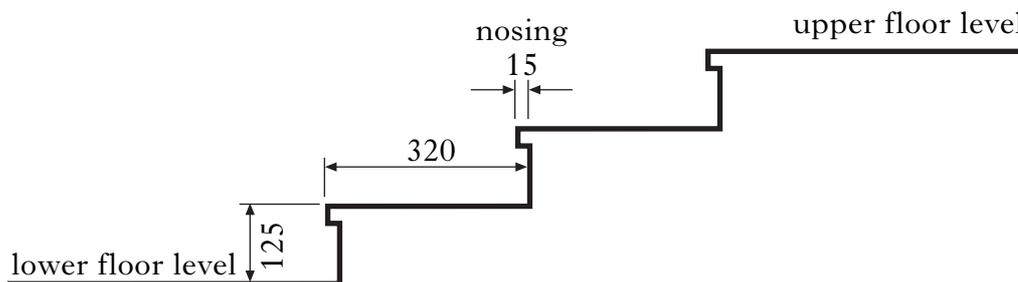

Figure Q8
8. Figure Q8 shows a cross section through a stair within a split level house.